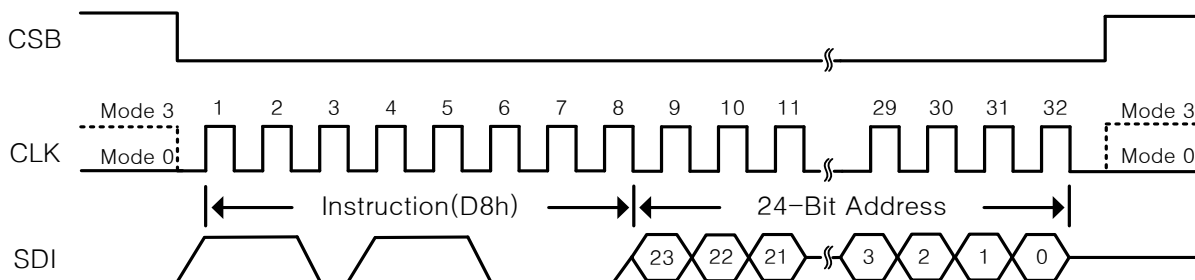

Figure 5. Block Erase Instruction Sequence Diagram
The instruction sequence is shown in Figure 5. Chip Select (CSB) must be driven high after the eighth bit of the last address byte has been latched in, otherwise the Block Erase (BE) is not executed.